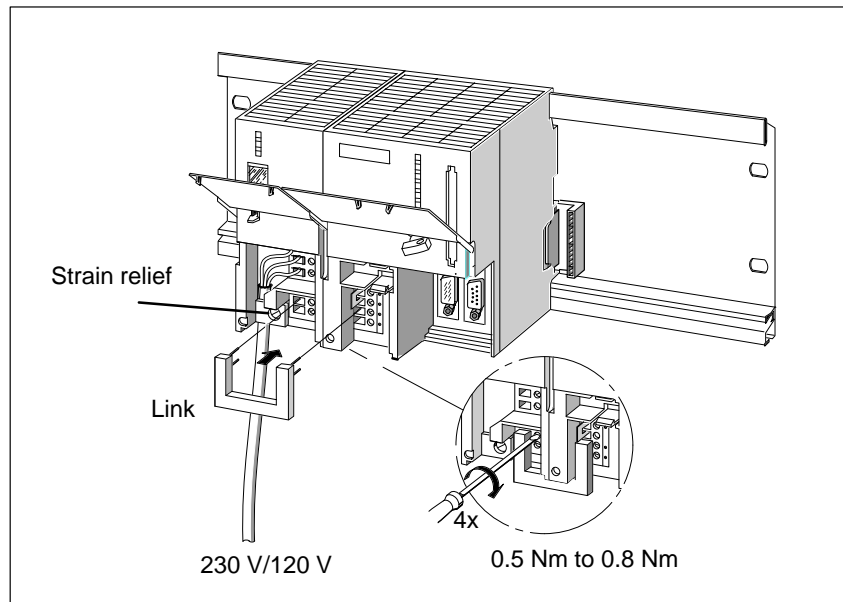

Figure 9-2 Slackening the Front Connector Screws on the Power Supply Module and CPU and Pulling off the Link
6. Slacken the screws of the front connector and, on the power supply module, additionally the screw of the strain relief (Figure 9-2).
7. Pull the cables and, on the power supply module and CPU, the link, out of the front connector (Figure 9-2).
6. Slacken the screws of the front connectors (Figure 9-2).
7. Pull the cables and, on the CPU, the link out of the front connector (Figure 9-2).